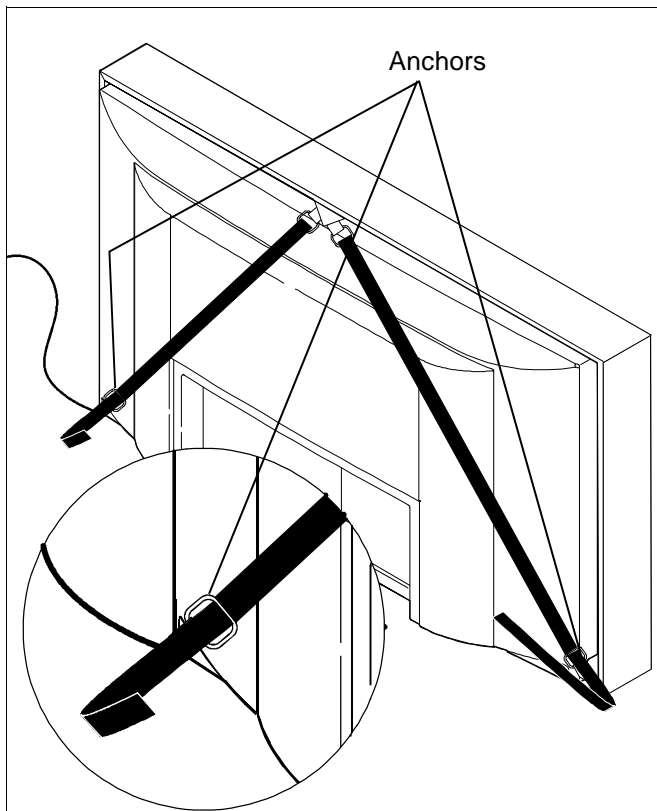

Figure 9
19. Route mounting straps under and through two anchors at each bottom corner of frame. (See Figure 9)
20. Pull each strap upward until snug and secure by pressing hook side of velcro straps to loop side of velcro straps. (See Figure 9)